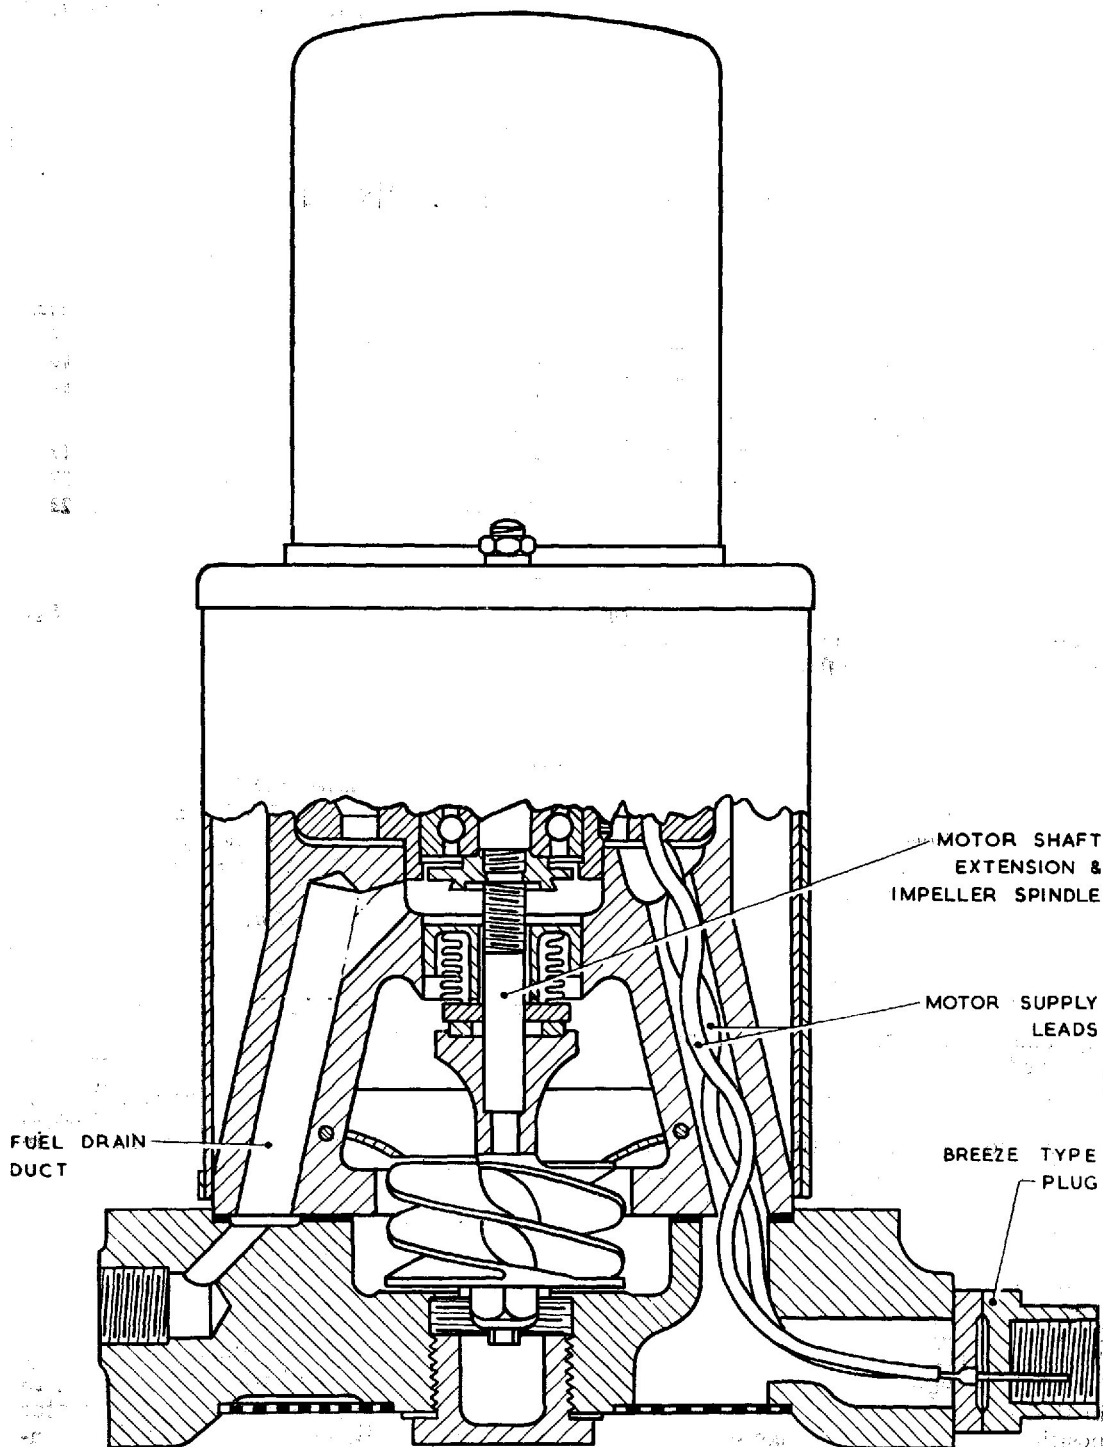

Fig. 1. Part section view of SPE 403, Mk. I fuel pump
5. The portway casting, or pump body, upon which the motor is mounted, comprises two circular ends separated by three cored out pillars. One of these pillars serves as an electrical cable conduit for the motor input leads (*fig. 1*). The second pillar acts as a drain duct, from the space between the lower motor bearing, and the upper surface of the bellows gland. The third pillar allows air to pass to the motor breather holes in the motor base plate. The upper end of the casting is machined to receive the motor, and also houses the metal bellows fuel sealing gland. When the pump is assembled, a flared cone, known as the vapour assister, is fitted on the motor shaft extension, immediately below the bellows gland. A three section vapour guide cone, located around the mouth of the impeller chamber, serves to carry away accumulations of fuel vapour and air, developed during high rates of climb to altitude.
7. The pump base is a casting in which is formed a volute chamber leading to the fuel pump outlet. A machined boss, adjacent to the outlet provides a seating for a two-pole Breeze type plug which is the electrical connection for the input leads to the motor (*fig. 1*). At the other side of the pump outlet is a $\frac{1}{4}$ in. B.S.F. tapped hole which is the exit from the gland drain duct.